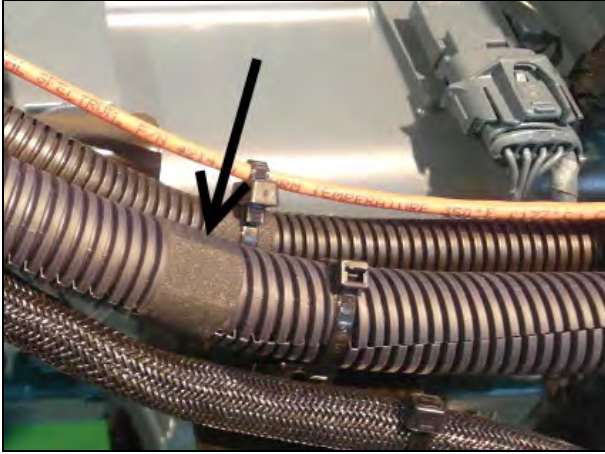
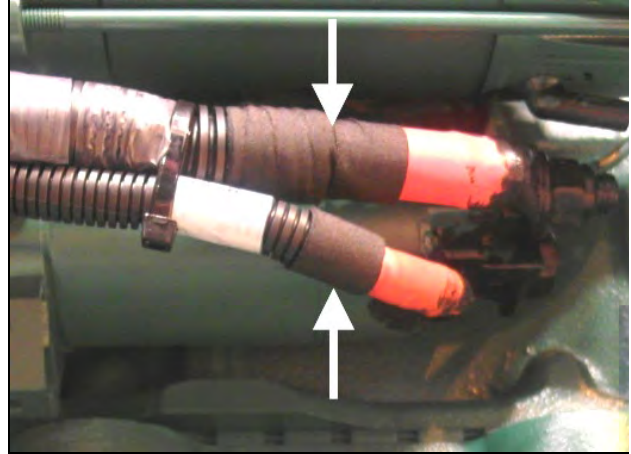

Figure 14: Two layers of fabric tape applied every 3 to 6 inches to prevent the cable from coming out of the corrugated protective sheath.
Figure 15: The ends of the corrugated protective sheath should be covered with fabric tape.
- For power cables passing through a corrugated protective sheath, it is recommended to apply two layers of fabric tape every 3 to 6 inches minimum to prevent the cable from coming out of the corrugated protective sheath (Figure 14). The ends of the corrugated protective sheath should be covered with fabric tape (figure 15).